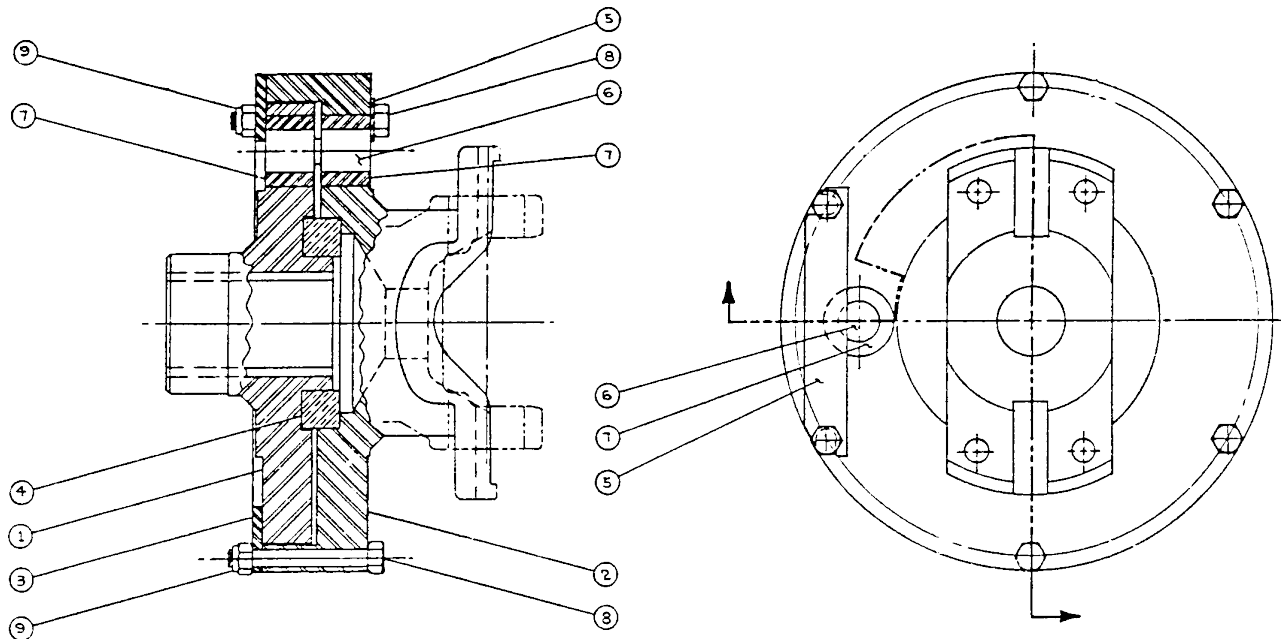

Fig. 4-4 Shear Pin Assembly (ref. 75586)
Refer to fig. 4-4 for parts identification. As stated above, the shear pin assembly is splined to the transmission output shaft, the drive shaft then bolt to it. The assembly consists of an input hub (1) and an output hub (2) that are held together by means of a retainer plate (3) and six capscrews and nuts (8 & 9). If the auger gets stuck or hung up, the shear pin (6) provides the weak link and will break, thus preventing expensive damage to the final or right angle drive. Always keep spare shear pins on hand.